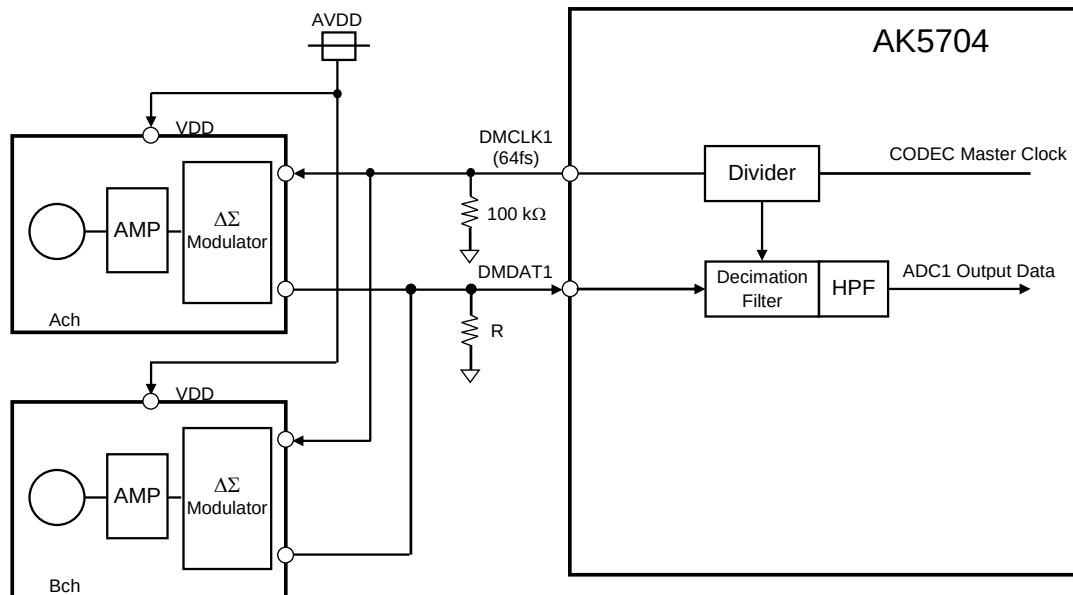
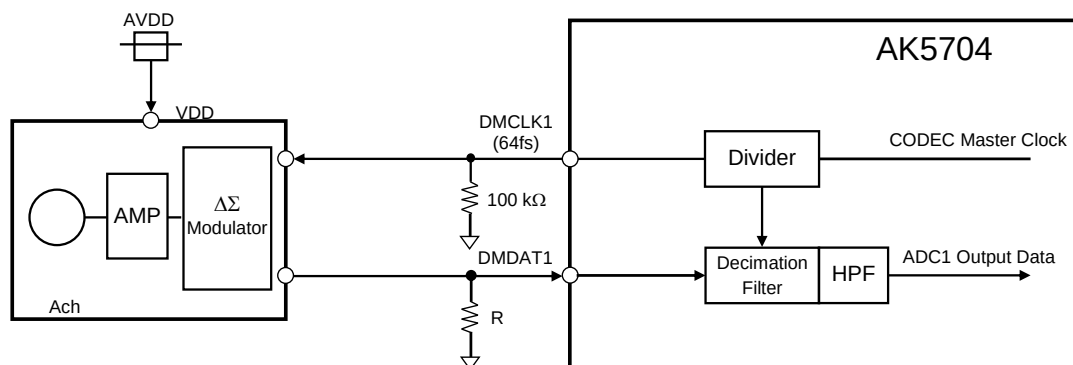

Figure 33. Connection Example of Stereo Digital Microphone (DMIC1 bit = "1")
Figure 34. Connection Example of Monaural Digital Microphone (DMIC1 bit = "1")
The same power supply as AVDD must be provided to the digital microphone. The Figure 33 and Figure 34 show stereo/mono connection examples. By dividing the master clock to 64fs with divider, the DMCLK1 (DMCLK2) signal is output from the AK5704, and the digital microphone outputs 1bit data, which is generated by $\Delta\Sigma$ Modulator, to DMDAT1 (DMDAT2). PMDM1A/B (PMDM2A/B) bits control power up/down of the digital block (Decimation Filter and HPF). PMAD1A/B (PMDM2A/B) bits settings do not affect the digital microphone power management. The DCLKE1 (DCLKE2) bit controls ON/OFF of the output clock from the DMCLK1 (DMCLK2) pin. When the AK5704 is power-up (PDN pin = "H"), external pull-down resistor (R) should be connected to the DMDAT1 (DMDAT2) pin to avoid floating state. Note that when using the digital microphone it does not support quad speed mode ($f_s \geq 128$ kHz).